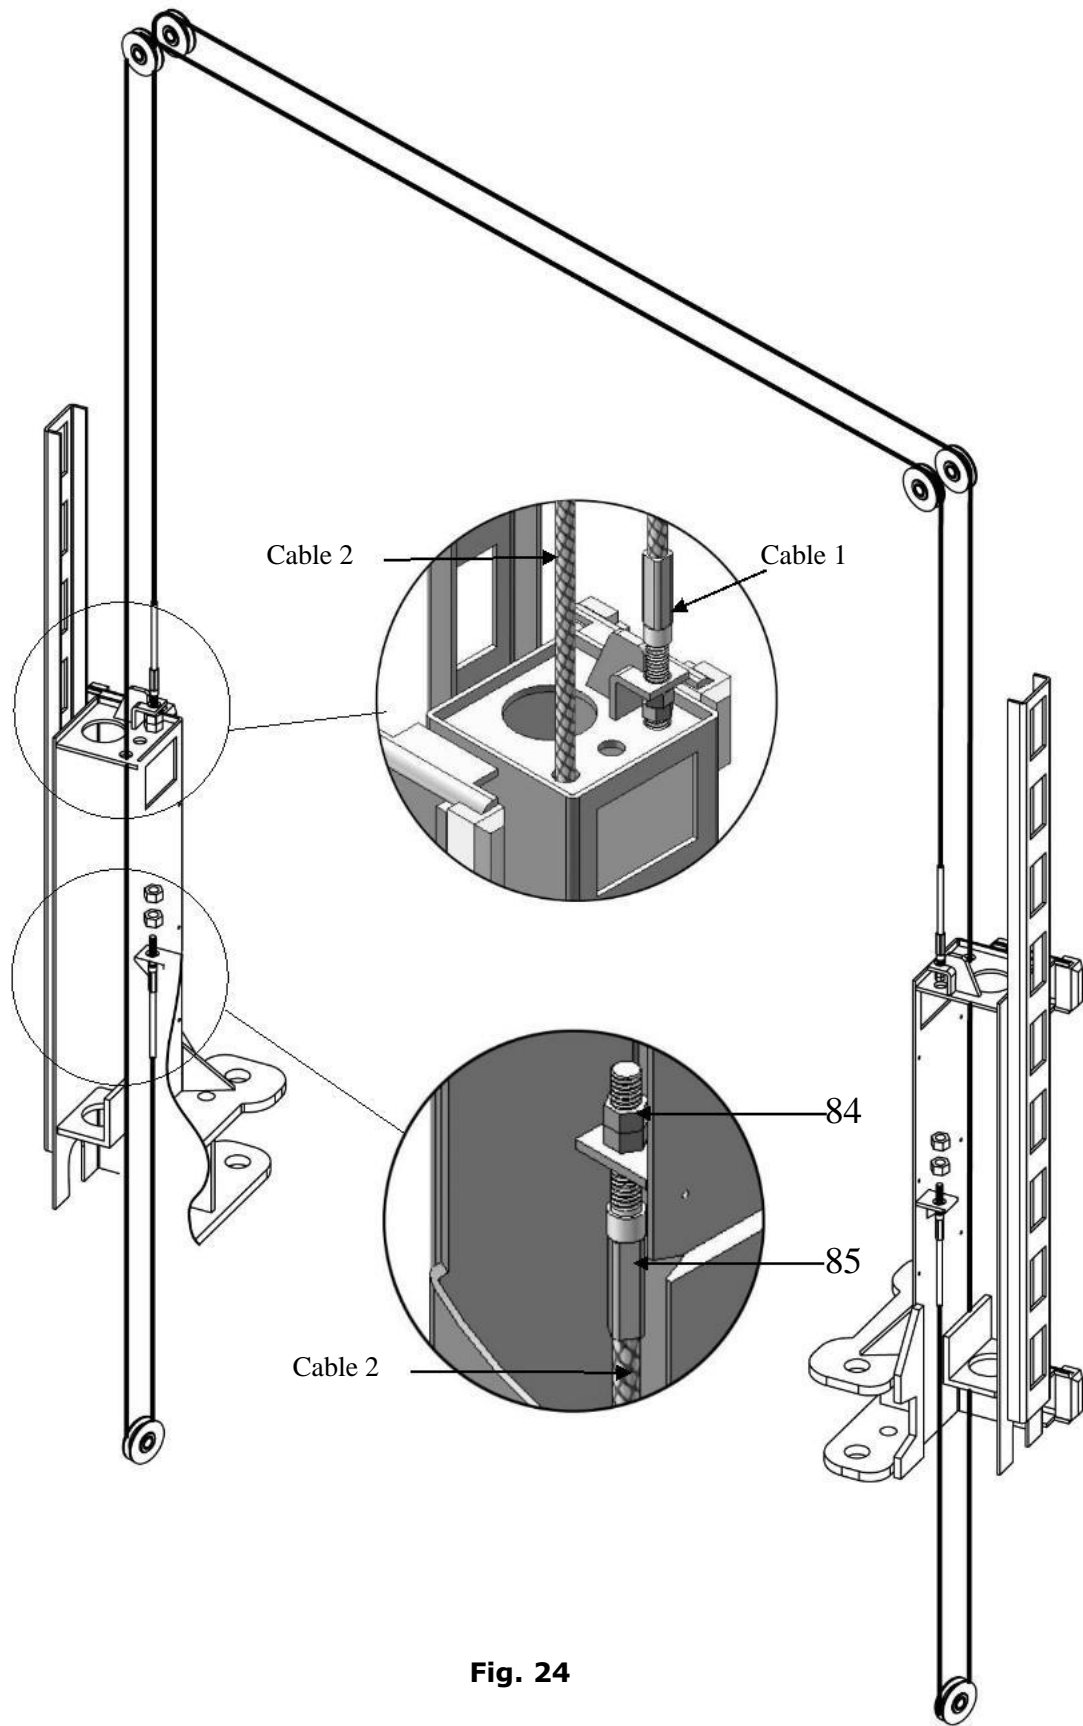

Fig. 24
2.2 Connecting cable for high setting (See Fig. 24).